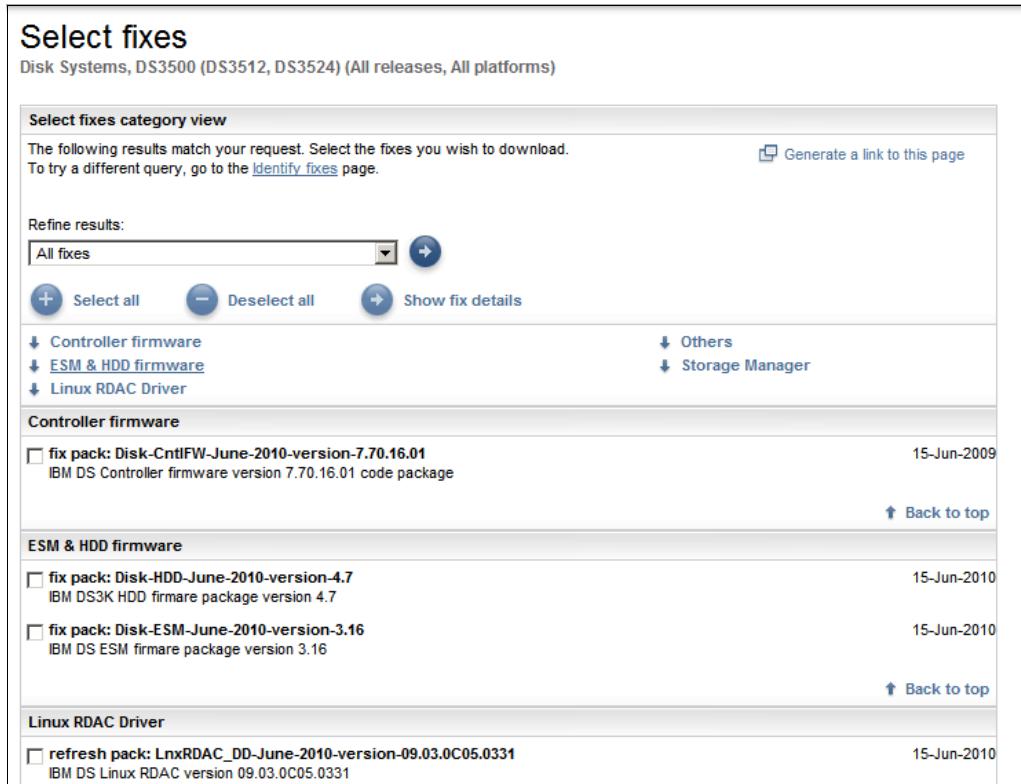

Figure A-7 Select fixes
- a. If you have an *IBM ID* and are already signed in to the IBM Support Portal, you will see the available downloads as shown in Figure A-7 on page 724. Here you can select which fixes and updates to download.
- When you are signed in to the IBM Support Portal using your IBM ID, you will see the code download options as shown in Figure A-7 on page 724. Select the check box for each code update that you want to download. Then click the **Continue** button located at the bottom of the page (Figure A-10).